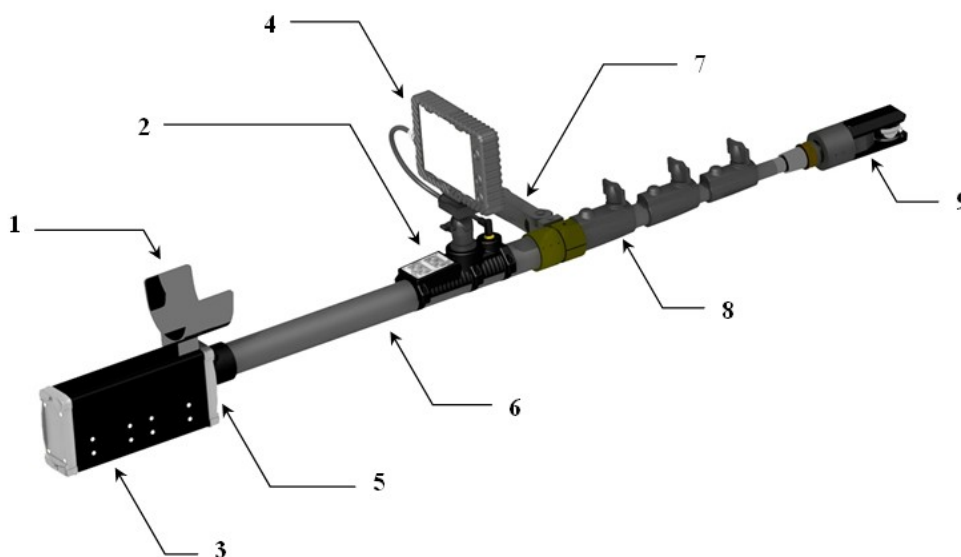

Figure 1.
1.4.1. The main components of the device and the control layout are shown in Figure 1.
1.4.4. Buttons on the keyboard unit (position 2, Figure 1) are used to rotate the camera on a rotator to the left and right, to adjust the brightness of IR lightening, save snapshots. Also there are two LEDs on the keyboard unit indicating IR lightening.
1.4.5. The buttons on the display (position 4, Figure 1) are used to power on / off the display, record photos and videos, view the recorded files with the option to stop viewing, play frames back and forth, as well as to adjust brightness and contrast, and to remove unnecessary information.
1.4.7. To power on / off the device, press the button (position 5, Figure 1). Next to the power button, there is a three-color LED indicator of battery discharge. Red color indicates battery discharge, green color states for a full charge, and the yellow one for the intermediate value of battery charge.